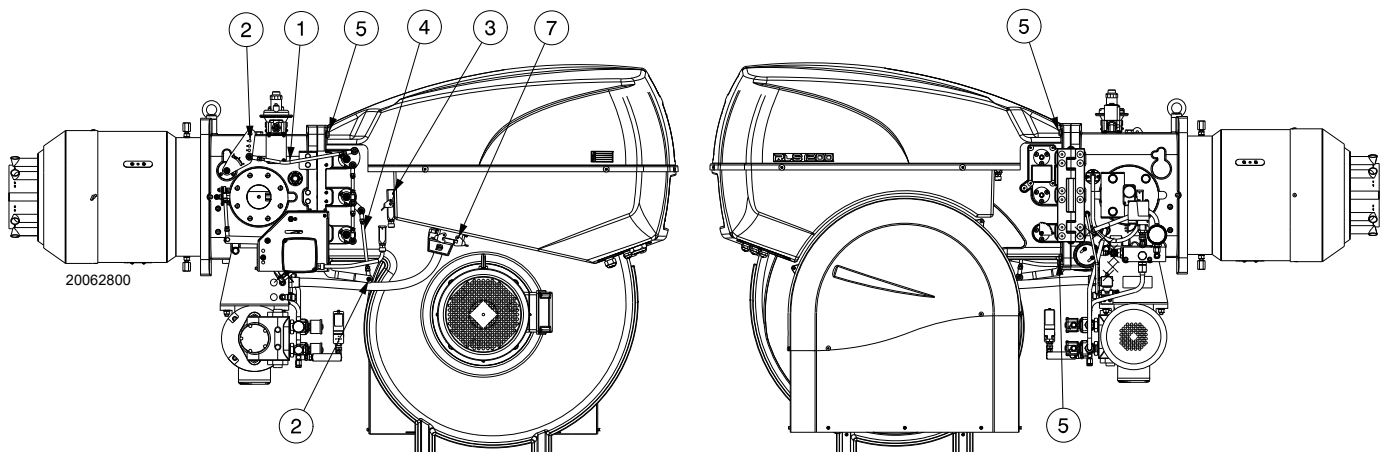

Fig. 43
- Remove the tie-rods 1) and 4)(Fig. 43) of the head movement and damper opening lever, loosening nut 2);